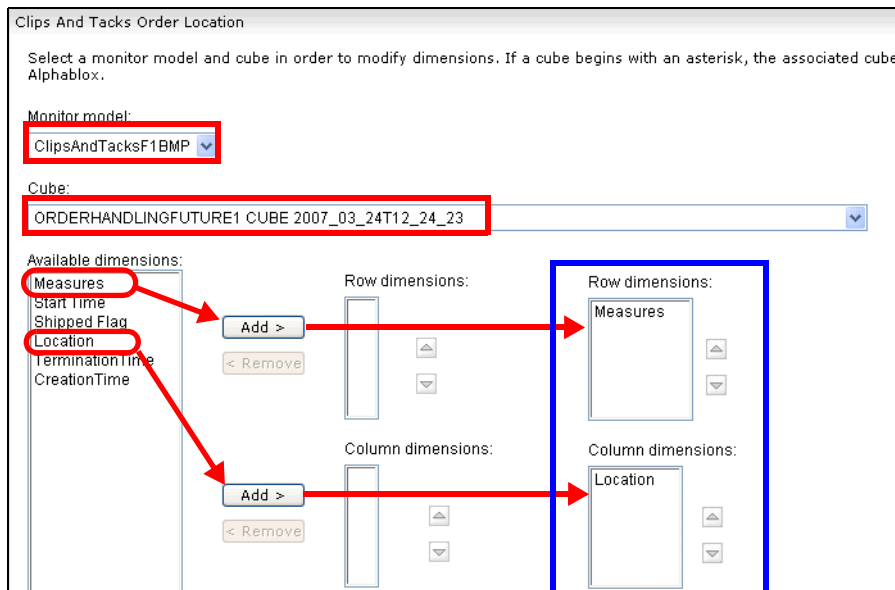

Figure 14-80 Configuring the dimensions view
- ▶ A list of the available dimensions is displayed (Figure 14-80).